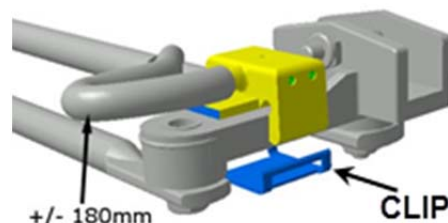

FIGURE 11: R.H. SIDE WIPER ARM
13. Save the windshield washer nozzle and reinstall on the new R.H. side (curb side) wiper arm. It is secured with a metal clip (FIGURE 11).